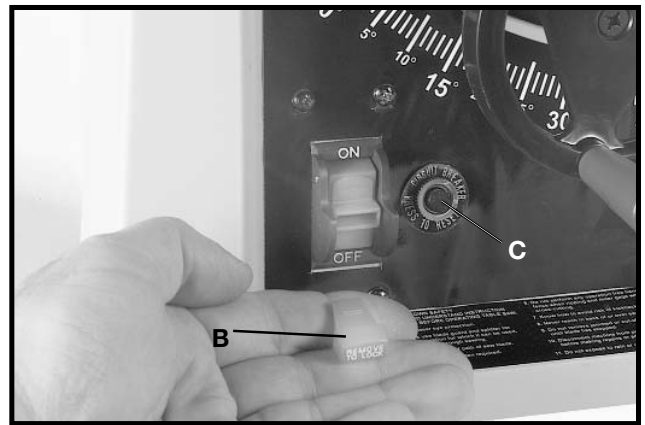

Fig. 28
**IMPORTANT:** When the tool is not in use, the switch should be locked in the “OFF” position to prevent unauthorized use. To lock the tool, grasp the switch toggle (B) and pull it out of the switch (Fig. 28). With the switch toggle (B) removed, the switch will not operate. However, should the switch toggle be removed while the saw is running, the machine can be turned “OFF,” but cannot be restarted without re-inserting the switch toggle (B).
Your saw is equipped with a reset button (C) Fig. 28. If the motor stops or fails to start due to over-loading (cutting stock too fast, using a dull blade, using the saw beyond its capacity, etc.) or low voltage, turn the switch to the “OFF” position. Let the motor cool three to five minutes. Push the reset button (C) to reset the overload device. The motor can then be started again in the usual manner.